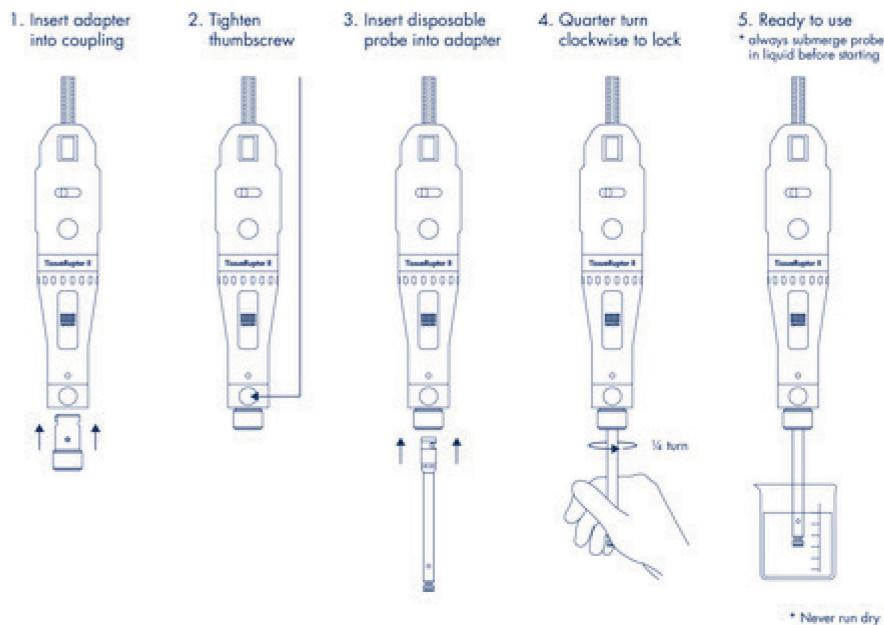

Figure 3. Attach the adapter and the plastic probes.
2. Perform these steps as described in Figure 3: